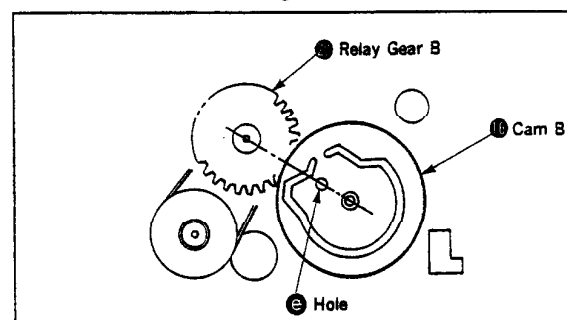

Fig. 32
- 4) Align the hole ㊱ of the cam B ㊲ with the hole of the mechanical chassis. At the same time, engage the relay gear B ㊳ with the gear and mount it. (Fig. 32)